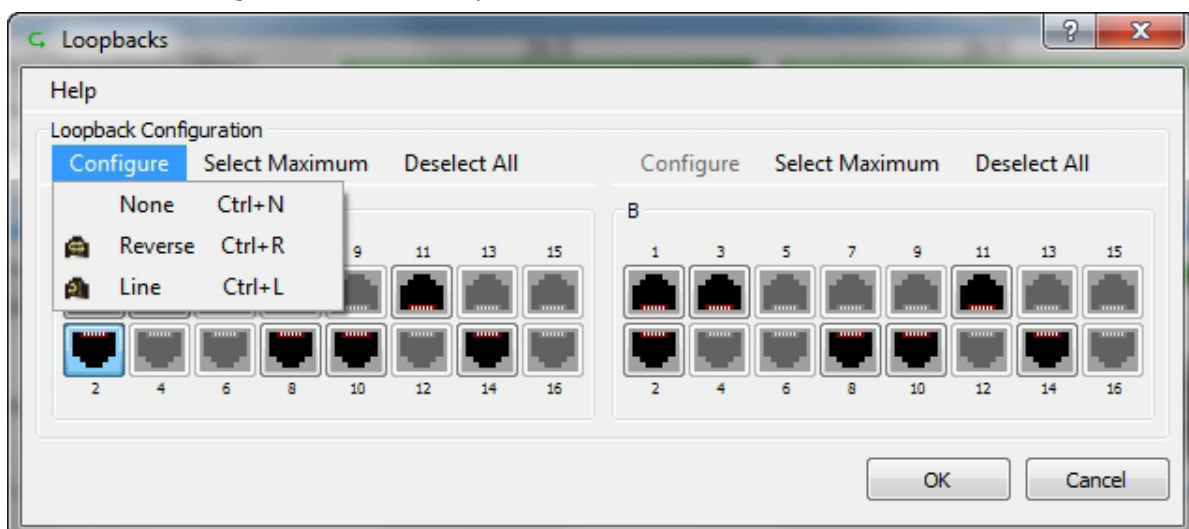

Figure 10-4: Loopback options
- Return to the situation of Figure 10-4 and click **None**.